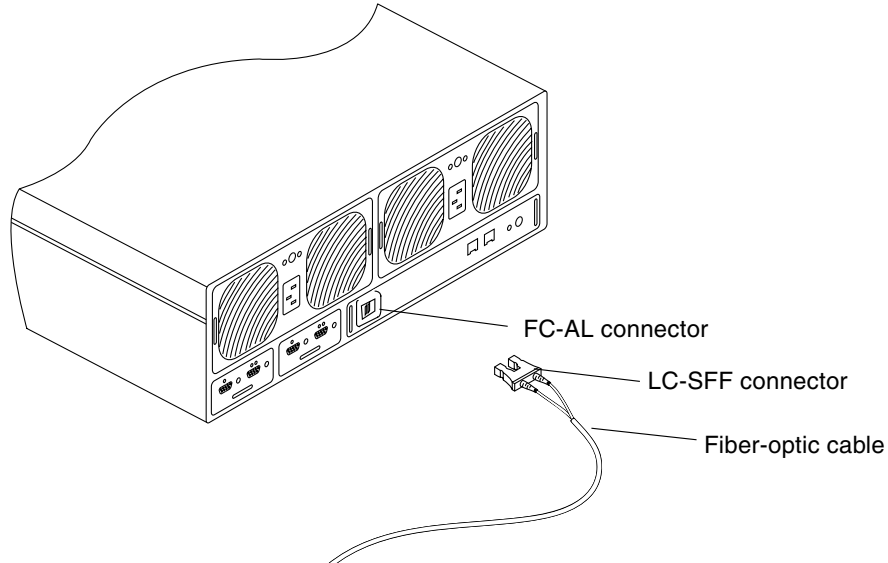

FIGURE 2-5 Connecting the Fiber-Optic Cable to the FC-AL Connector on a Sun StorEdge T3+ Array
- For a Sun StorEdge T3+ array, make sure to attach the standard connector (SC) on the fiber-optic cable to the HBA.
- For a Sun StorEdge T3+ array, connect the LC-SFF (small form factor) end of the cable to the FC-AL interface (FIGURE 2-5).